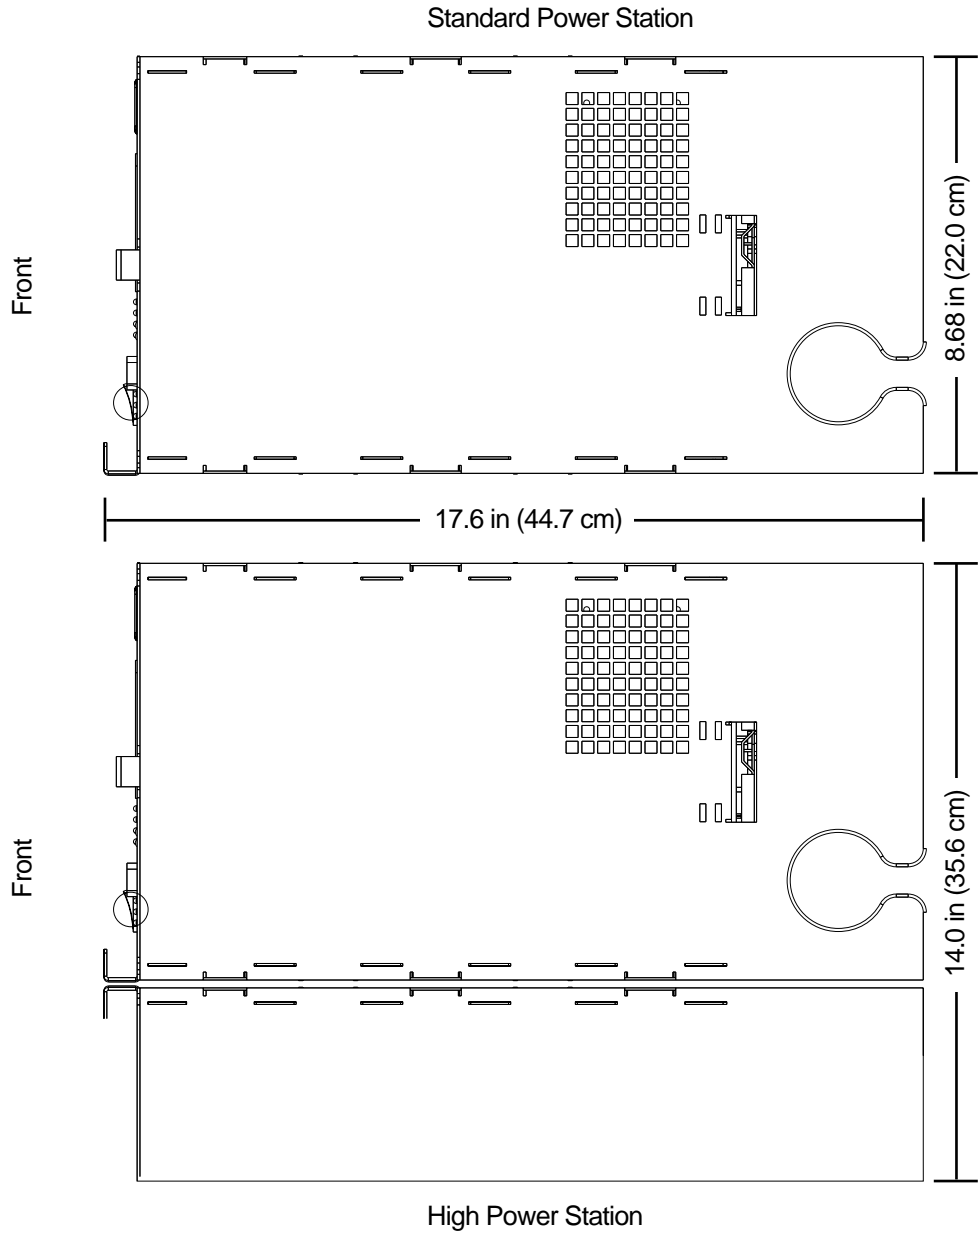

Figure 3-2: Side View of the Standard Power and High Power Stations Without a Cabinet
- Side views of the standard power station and high power station (see Figure 3-2)